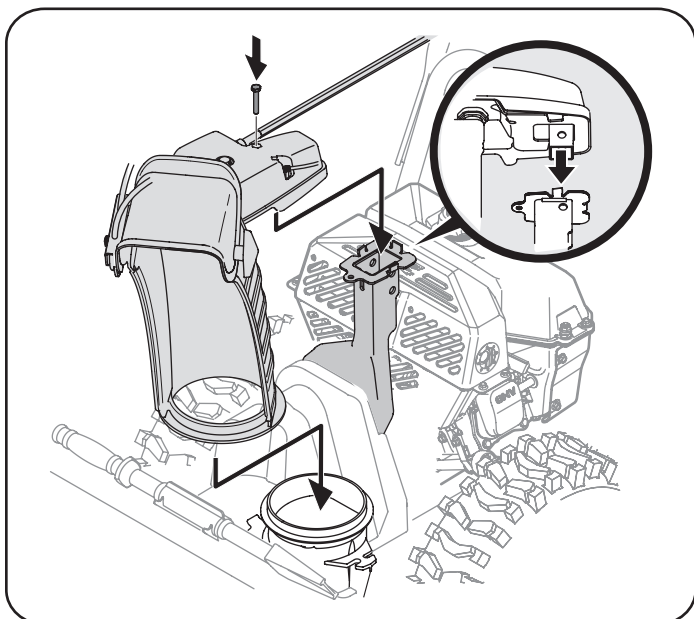

Figure 5
4. Place chute onto chute base and ensure chute control rod is positioned under handle panel. Install hex bolt previously removed but do not secure with wing nut at this time. See Figure 5.